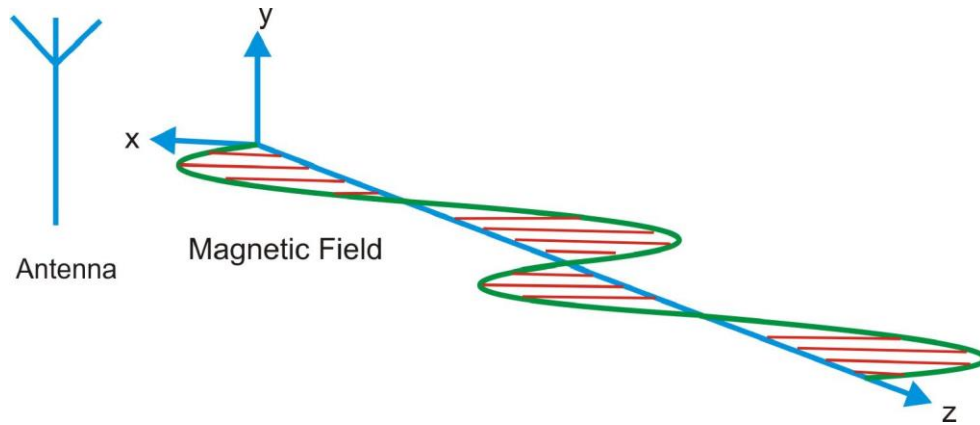

Figure 16
*Figure 16 shows magnetic field is always at right angles to the electric field so in this case, it is positioned horizontally (in the direction shown by x).*